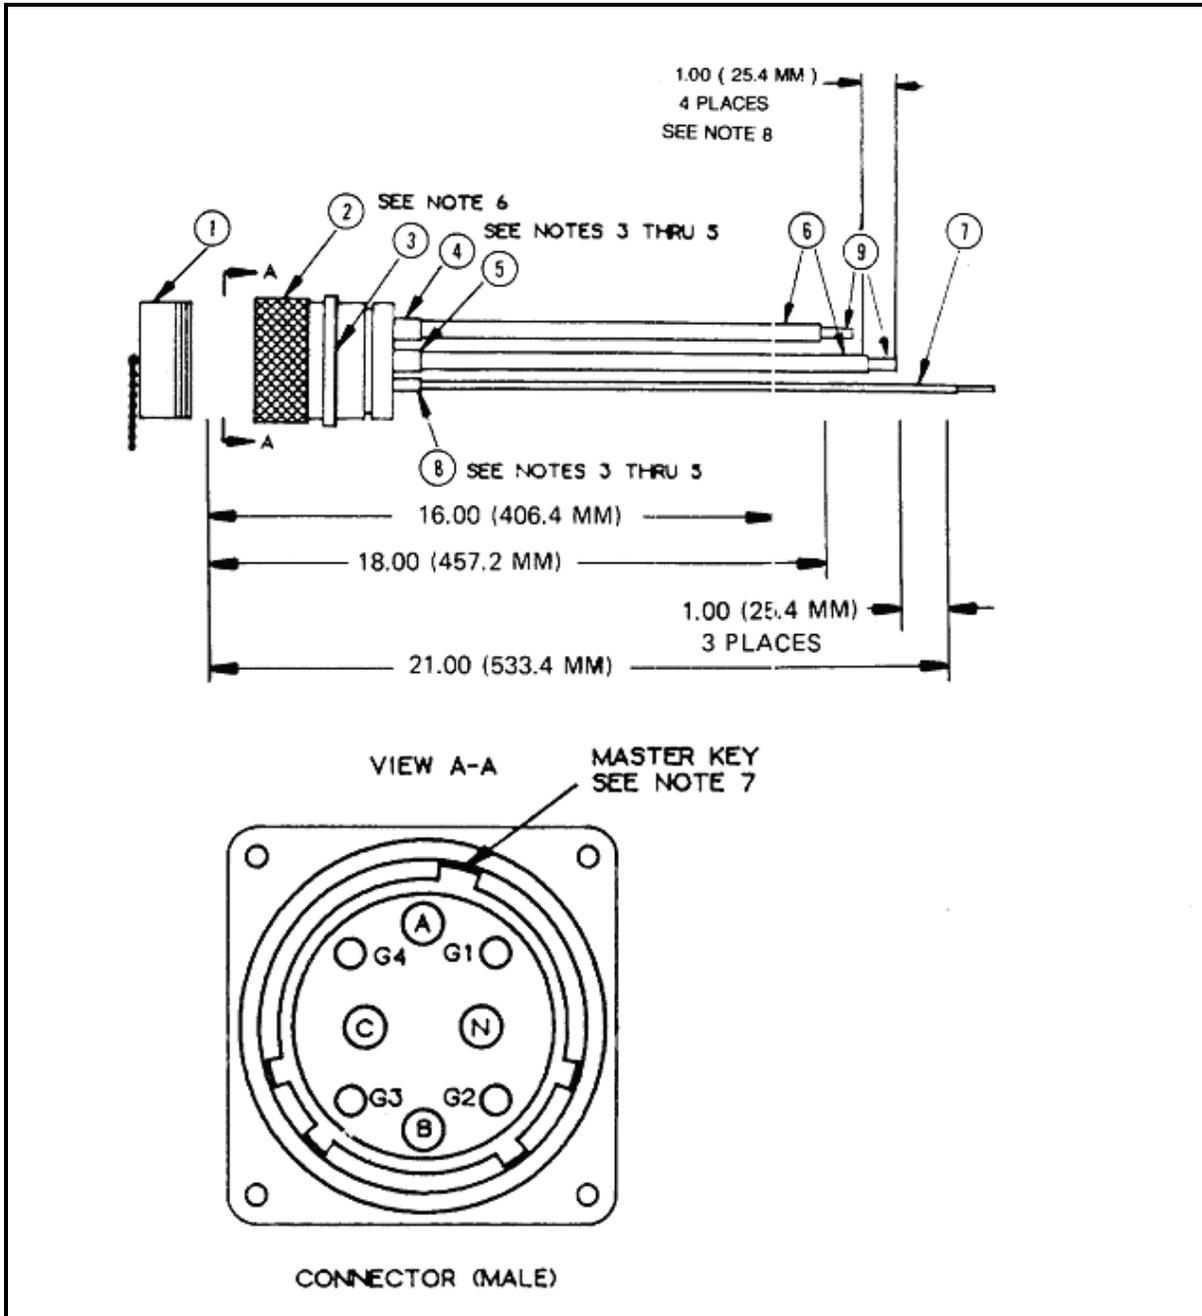

Figure F-26. M200 A/P (PDISE), 200-Amp, Internal Input Connector Assembly, (J1)
Component Legend for Figure F-26
c. Electrical connector (Figure F-26, Item 2) is furnished with the following: